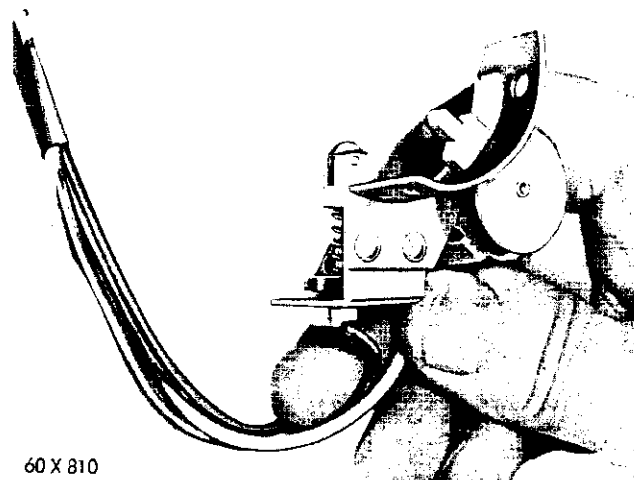

Fig. 4—Removing the Turn Signal Switch
(1) Disconnect the negative (ground) cable from the battery.
(2) Remove the two screws from the underside of the steering wheel and remove the horn ring, retainer and attaching screws.
(3) Disconnect the horn wire at the horn switch; remove the horn switch screws and bushings and the horn switch.
(4) Loosen the steering wheel nut several turns, install puller Tool C-3428 and remove the steering wheel nut, wheel, and puller tool.
(5) Disconnect the directional signal wires at the connectors.
(6) Remove the directional indicator switch (held to the jacket tube by two screws) (Fig. 4).
(7) Remove the two screws attaching the steering jacket tube clamp at the instrument panel and remove the clamp.
(8) Move the trim cap up on the steering jacket